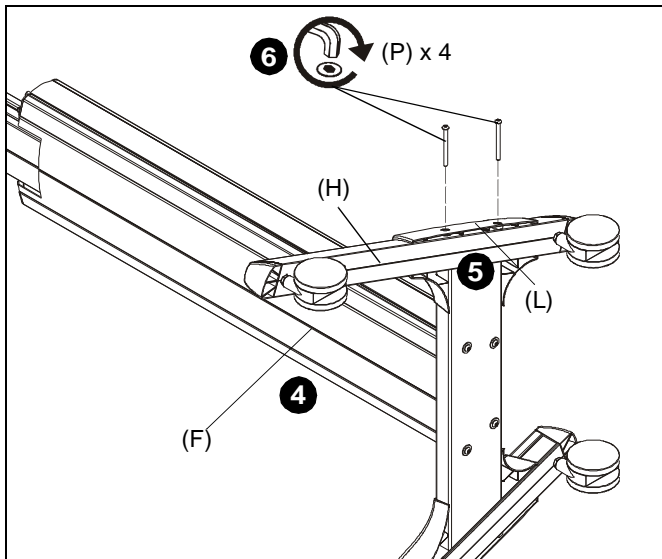

Figure 2
4. Turn column assembly (F) onto its right side. (See Figure 2)
5. Place left transition cover (L) on left cart leg (H), lining up the holes on the cover with the holes on the leg and column assembly base. (See Figure 2)
6. Use two 5/16-18 x 3 3/4" button head cap screws (P) to secure leg (H) and cover (L) to column assembly (F). (See Figure 2)